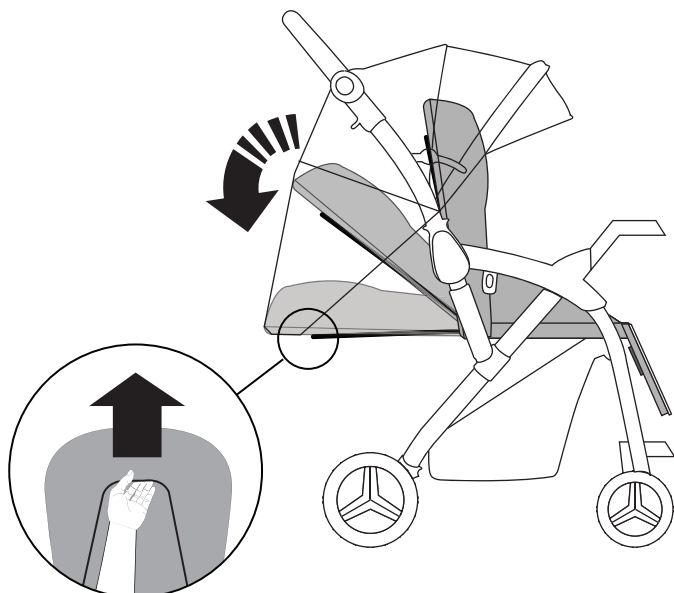

Fig. 9
- Lift the recline bar located on the top center of the stroller seat upward and rotate seat downward into any of the three positions. (Fig. 9)